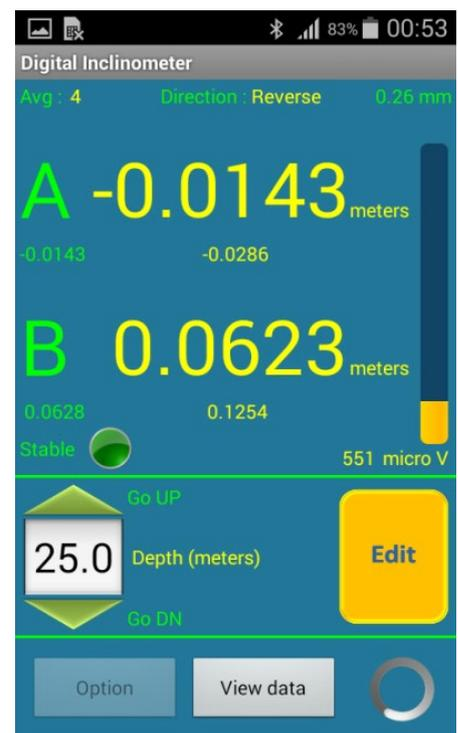

Figure 7-14 Reading Screen in Edit Mode
- Small digits in yellow colour below axis-A and axis-B readings depict run time **face error**. Figure 7-14 shows an example of reading screen. Face error is the difference in reading from normal to reverse Probe direction for same interval. Face error should be zero in ideal case. It should be approximately same for a Probe at each interval. Wrong readings can be identified with the help of face error.
Readings can be verified or retaken using EDIT mode. Pressing Down button once enters application in EDIT mode. Once DN button is pressed, Accept button becomes Edit button and small digits in green colour below axis-A and axis-B will appear for showing stored log for the interval showing on screen (see Figure 7-14). Lower the Probe into borehole and press DN button corresponding to Probe position into borehole. Monitor stored log and present log to verify the reading log. If any stored log found wrong, new